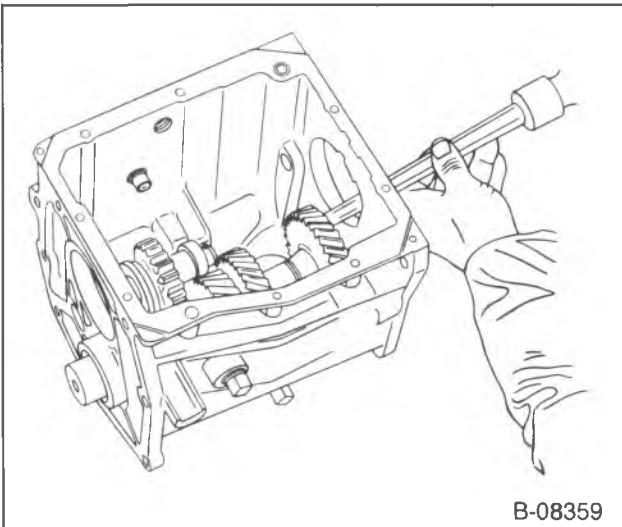

Figure 15—Removing the Countergear Rear Bearing
- 19. Snap ring and the countergear rear bearing spacer (634) (5 speed only).
- 20. Countergear rear bearing (635).
- Drive the countergear (640) to the rear to remove the bearing (figure 15).
- 21. Countergear (640) and the rear bearing spacer (636).
- 22. Countergear thrust washer (641).
- 23. Countergear front bearing (642).